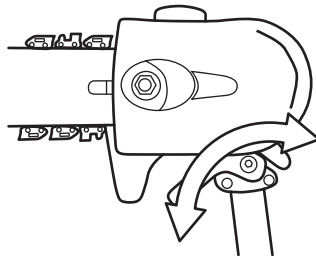

Fig. 30b
2. Adjust the pruner head to required position and then release the locking lever (D8). (See Fig. 30b)